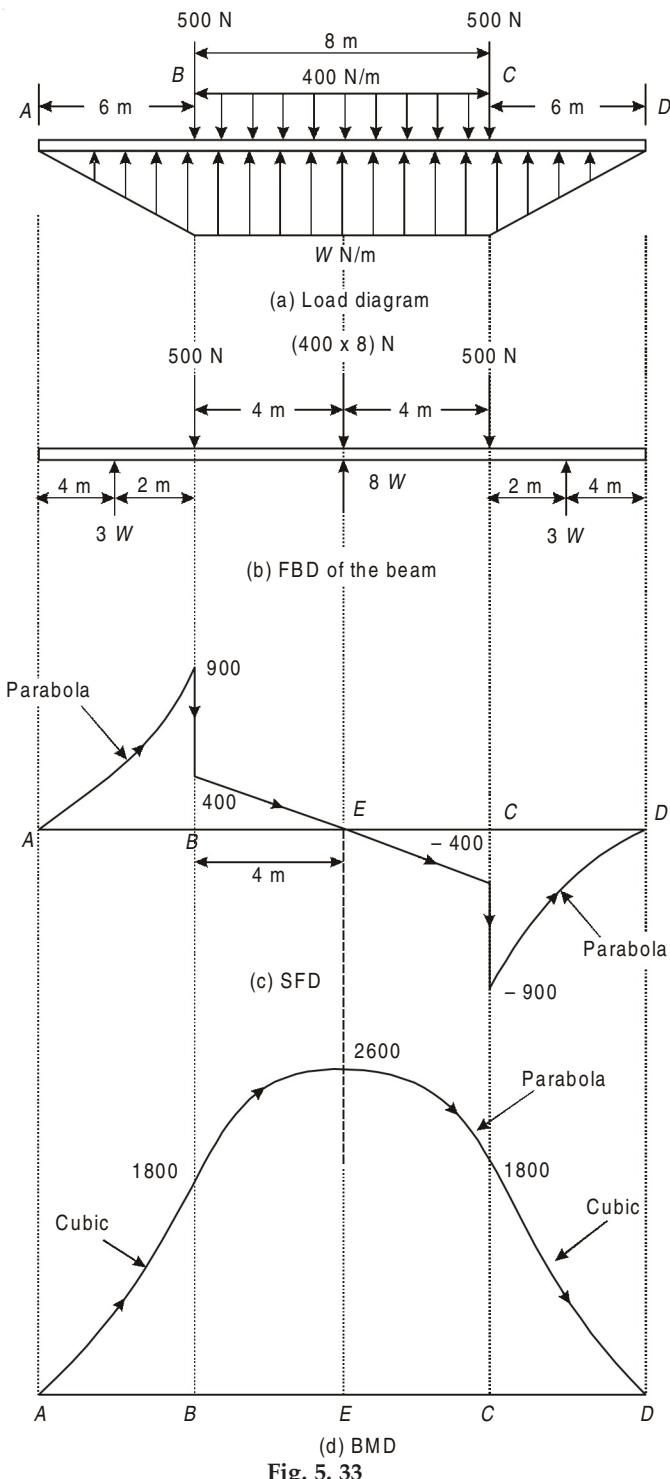

Fig. 5.33
- (4) Similarly the third section can be taken between C and D, and SF and BM diagrams can be completed as shown in Fig. 5.33 (c) and (d)